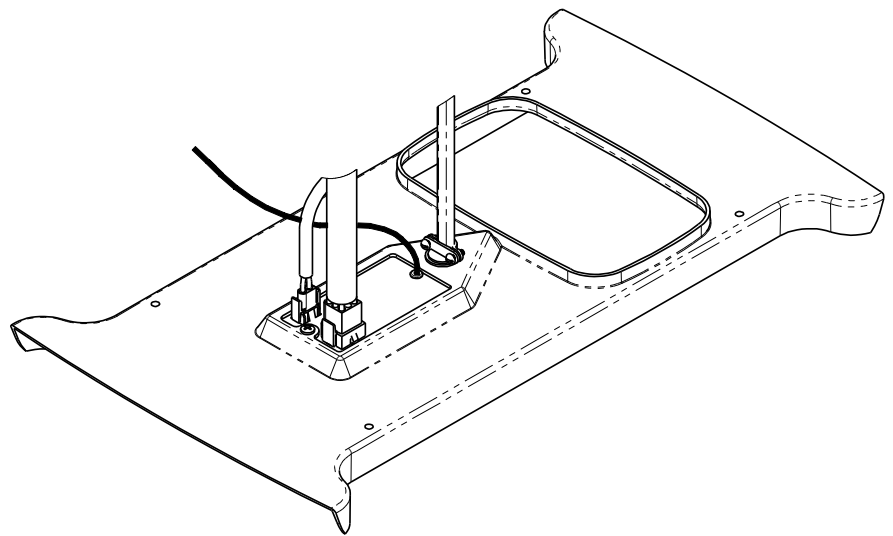

FIGURE 7
- C. Raise the ceiling assembly chute and insert the the supply wiring through the cable clamp and into the wiring box so that 4-6” of supply conductor is inside the box. Secure the cable clamp over the supply wire sheath so that no movement is possible (See Figure 7).
- F. Plug the air conditioner electrical conduit into the 9 position receptacle as shown in Figure 7.
- G. If the optional heater accessory package is being installed, remove the cover from the 2 position receptacle and plug the heater cord into receptacle as shown in Figure 7.